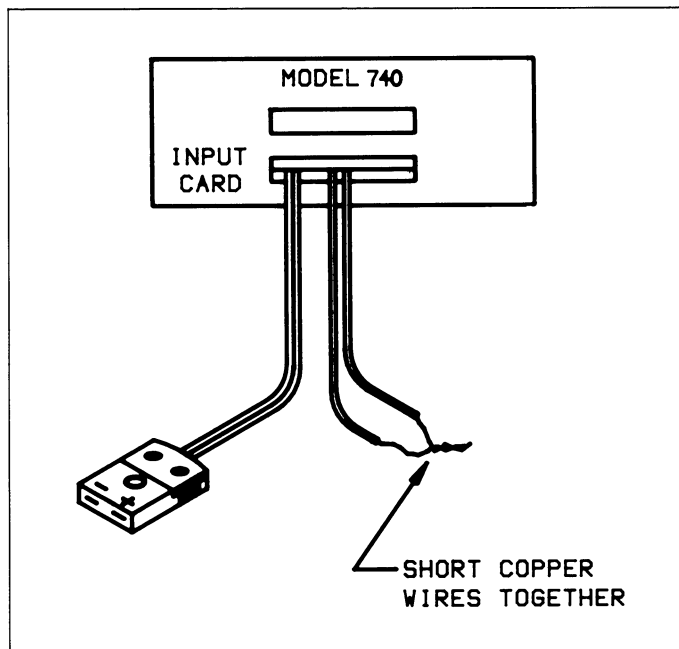

Figure 6-2. A/D Converter—Zero Calibration
- Short the two copper wires from the INPUT CARD together as shown in Figure 6-2.
4. Short the two copper wires together as shown in Figure 6-2.